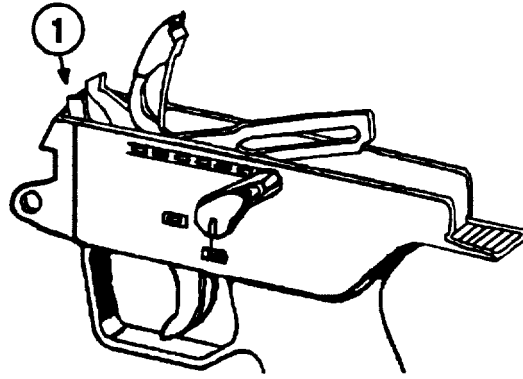

Figure 2-7. Ejector
g. Ejection. As soon as the fired case has been extracted and has cleared the rear of the barrel extension, it is expelled from the weapon by the ejector (1), Figure 2-7, which is located within the trigger mechanism.